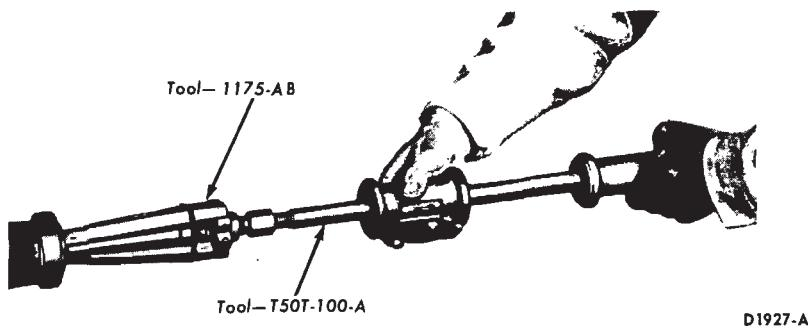

FIG. 4—Removing Extension Housing Seal
2. Remove the seal from the extension housing with the tool shown in Fig. 4.